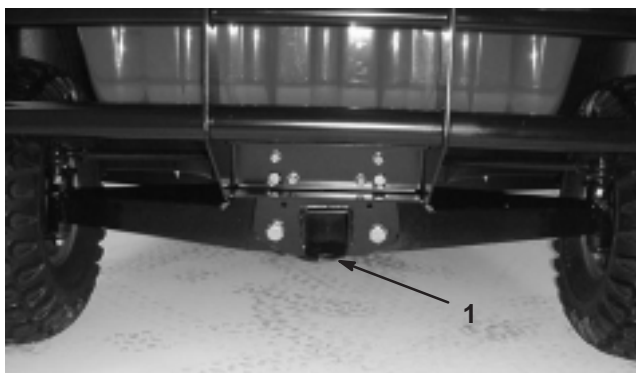

Figure 15
2. Affix a tow line to the tongue on the front of the frame (Fig. 15).